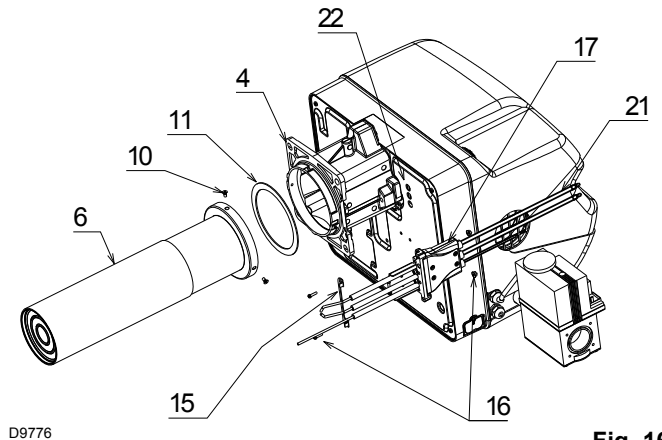

Fig. 16
- Fasten the electrode unit 17)(Fig. 16) on flange 4) with the two nuts and screws 16.
- Insert the connections 21)(Fig. 16) in the holes 22).